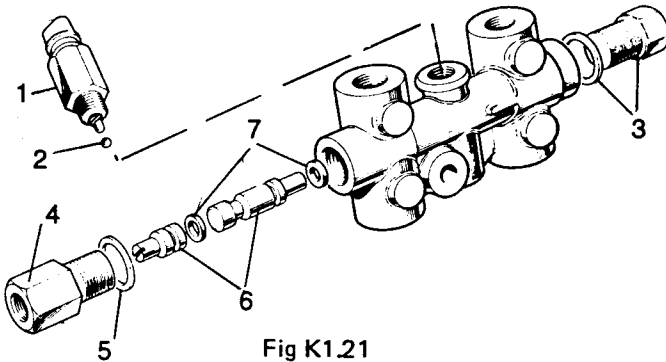
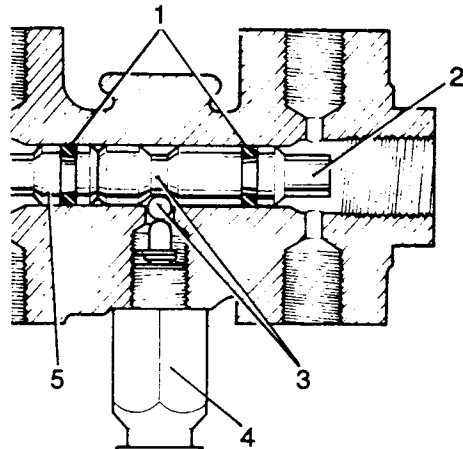

Fig K1.21
Fig K1.23
- (1) Refer to Fig K1.21. Remove the switch unit (1) from the housing.
- (2) Withdraw the plunger ball (2).
- (3) Remove the end plug and sealing washer (3).
- (4) Remove the pipe connector union (4) and sealing washer (5).
- (5) Push out the two-part shuttle valve (6) using a soft drift.
- (6) Remove and discard the shuttle valve oil seals (7).
- (3) Refer to Fig K1.23. Fit new shuttle valve seals (1).
- (4) Coat the seals with Girling brake lubricant or clean brake fluid.
- (5) Fit the longer shuttle valve (2), slotted end last, to the end plug end of the housing bore.
- (6) Position the shuttle valve to align the groove for the plunger ball with the drilling for the ball (3).
- (7) Fit the ball and switch unit (4). Torque loading 1,728 N.m.
- (8) Fit the shorter shuttle valve (5) slotted end last to the pipe connector end of the housing bore.
- (9) Replace the pipe connector union ((4) on Fig K1.21) using a new sealing washer ((5) on Fig K1.21). Torque to 22 N.m.
(10) Replace end plug ((3) on Fig K1.21) using a new sealing washer. Torque to 22 N.m.